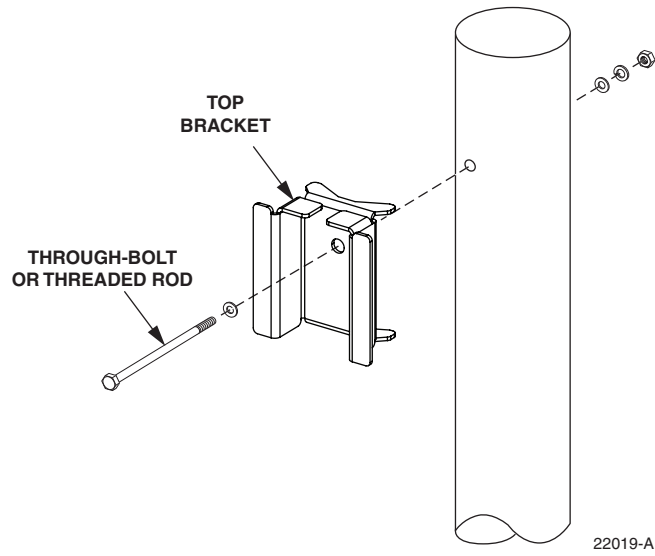

Figure 3. Securing The Cabinet Top Bracket To The Utility Pole
1. Locate where the cabinet will be mounted on the utility pole and place the top bracket in position for mounting as shown in Figure 3.